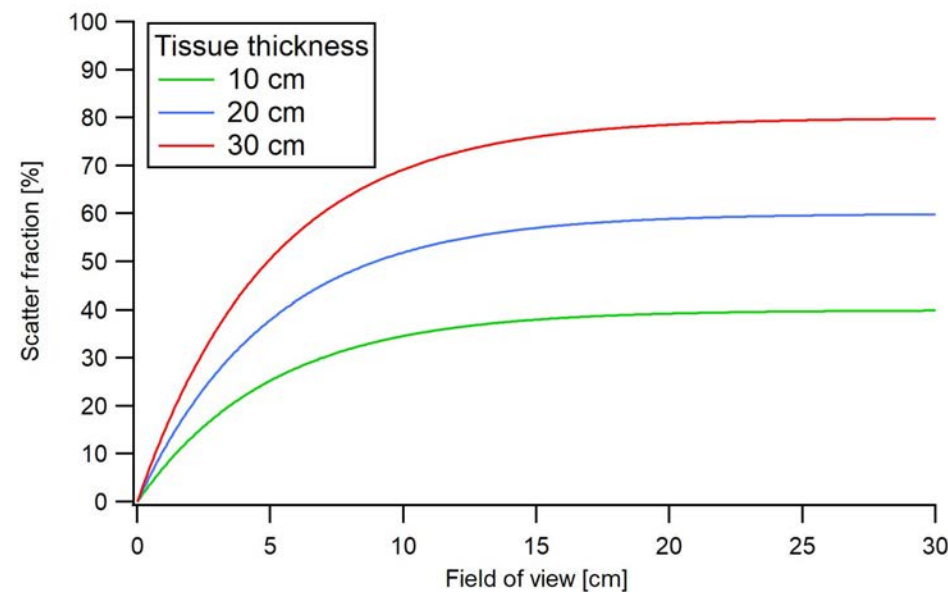

Fig. 13 – Scatter fraction of X-ray beams for different field of view and three patient tissue thicknesses
- The amount of scatter detected in an image is characterized by the scatter-to-primary ratio (SPR) or the **scatter fraction (SF)**, which is expressed as a percentage.
- For a typical $30 \times 30 \text{ cm}^2$ abdominal irradiation in a 25-cm-thick patient, the SF is about 80% (Fig. 13).